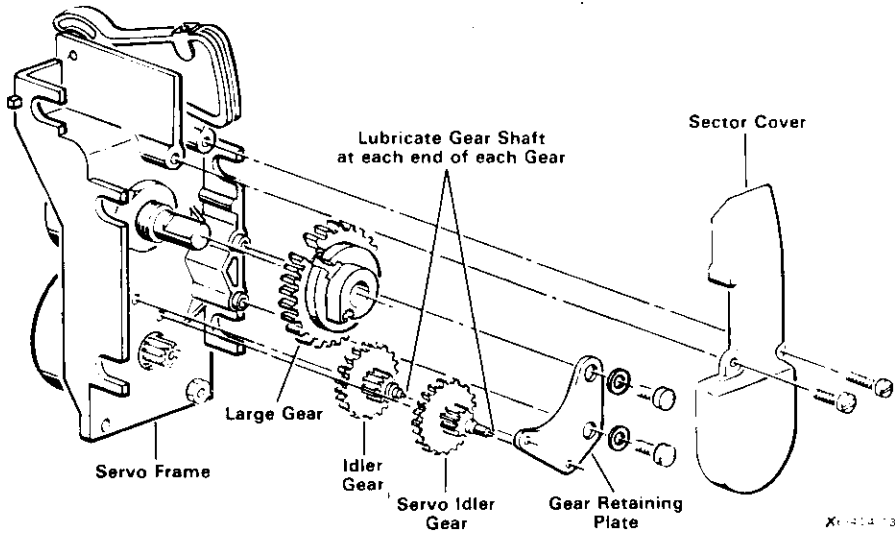
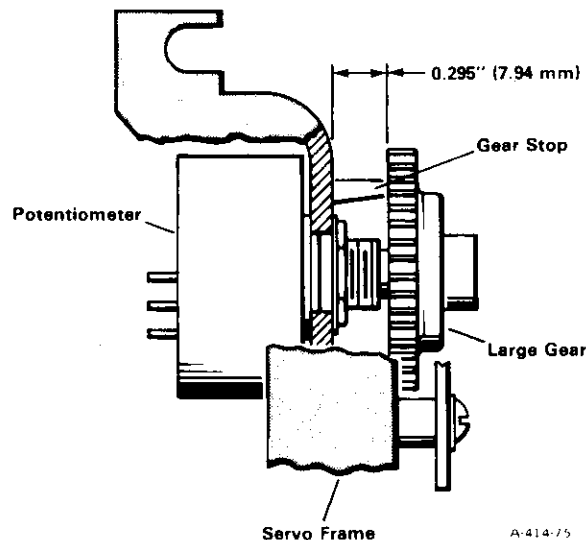

Figure 1. Gear Assembly
Figure 3. Position of Large Gear in Relation to Surface of Servo Frame
2. Remove two screws and remove sector cover, Figure 1.
5. Remove two screws and remove gear retaining plate, Figure 1.
6. Remove servo idler gear and idler gear, Figure 1.
7. Use grease from grease capsule to lubricate gear shafts on new servo idler and idler gears. Assemble new gears as shown in Figure 1. Retain gears with new gear retaining plate from kit and two screws and flat washers. Do not tighten screws completely.
8. Reassemble large gear to potentiometer shaft, Figure 1. Locate large gear 0.295 inch ± 0.005 (7.5 mm ± 0.13) from surface of servo frame as shown in Figure 3. If large gear is too close to servo frame, gear will rub on gear stop located under large gear. If large gear is too far from servo frame, gear will rub on sector cover. Tighten setscrew in hub of gear to 3 in. lb (0.34 N m) torque.